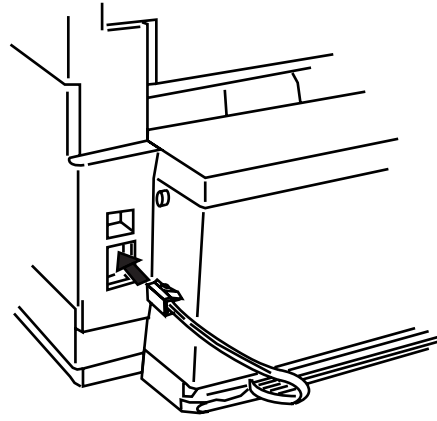

Fig. C.3.6
- (7) Connect the terminal on the other side of the connection cable formed on the rear side of the equipment (TEL1), like Fig. C.3.6, to the telephone set.